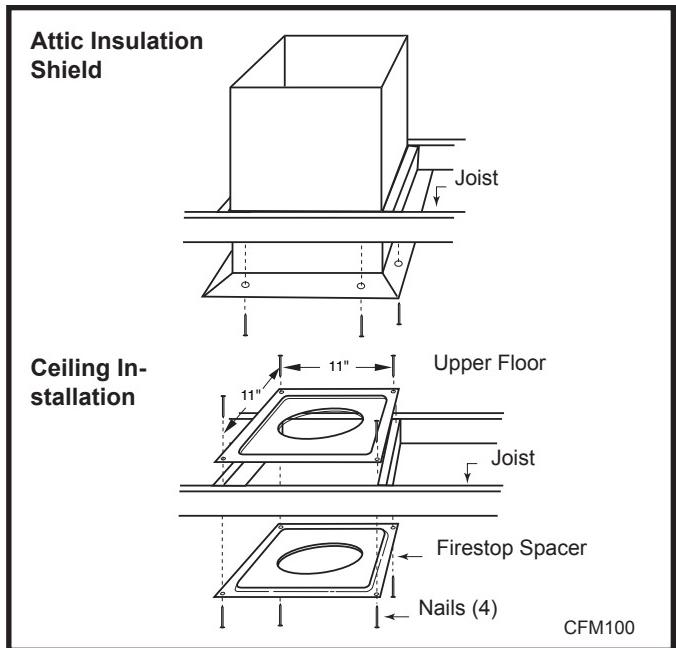

Fig. 57 Place firestop spacer(s) and secure.
- Place firestop(s) #7DVFS or Attic Insulation Shield #7DVAIS into position and secure. (Fig. 57)